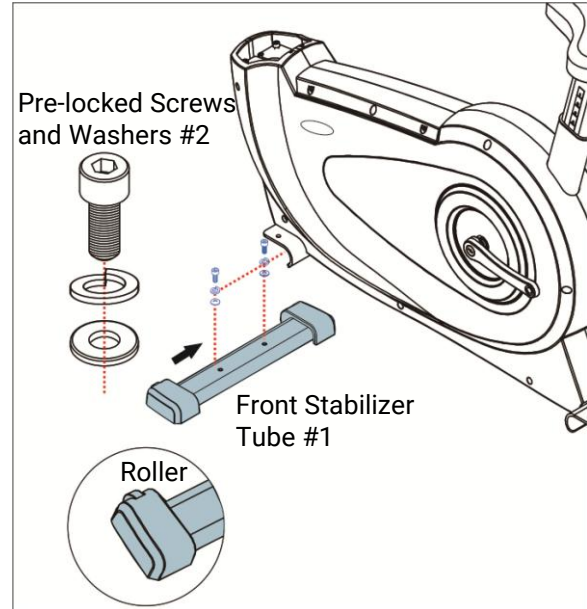

Fig 2.5-1A
- 2) Attach the **Front Stabilizer Tube #1** to Main Frame by using (2) **Pre-locked Screws and Washers #2** with the provided Allen Wrench (6mm). (Fig 2.5-1A)